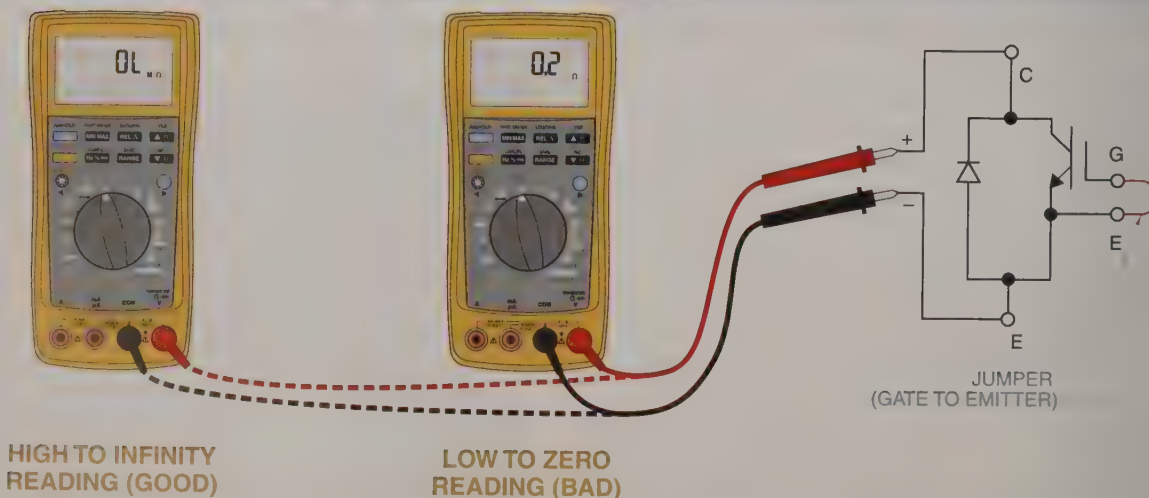

Figure 22-32. The resistance between the collector (C) and emitter (E) is measured with a jumper between the gate (G) and emitter (E).
The leakage resistance between the collector (C) and emitter (E) is measured with a jumper between the gate (G) and emitter (E). See **Figure 22-32**. The collector should be connected to the positive (red) test lead and the emitter to the negative (black) test lead. The DMM resistance reading should range from several megohms to infinity. The IGBT is considered defective if the